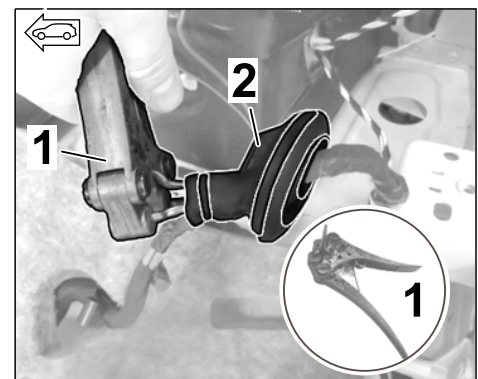

Figure 23
3.3.7 Guide the new branch for the exhaust flap (left/right) through the new grommet (left = \varnothing 66.5 mm/right = \varnothing 46 mm \Rightarrow Figure 23) using three mandrel pliers and an auxiliary line (Tekalan or Teflon tube).